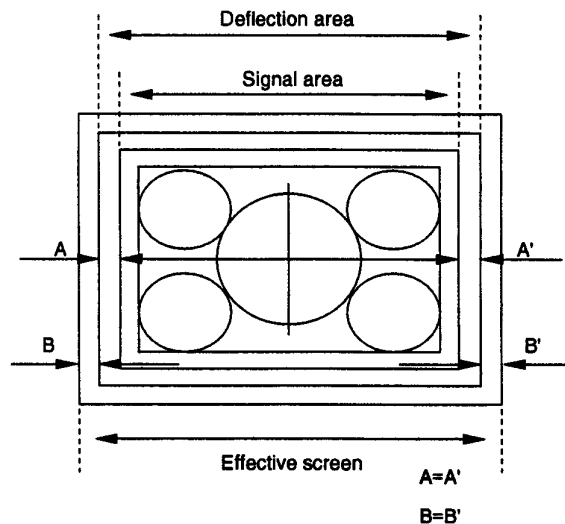

Fig.5-4
7. Adjust **[60 VIDEO PHASE]** so that the signal area will be in the center ( $A = A'$ ) of the deflection area. (Fig.5-4)